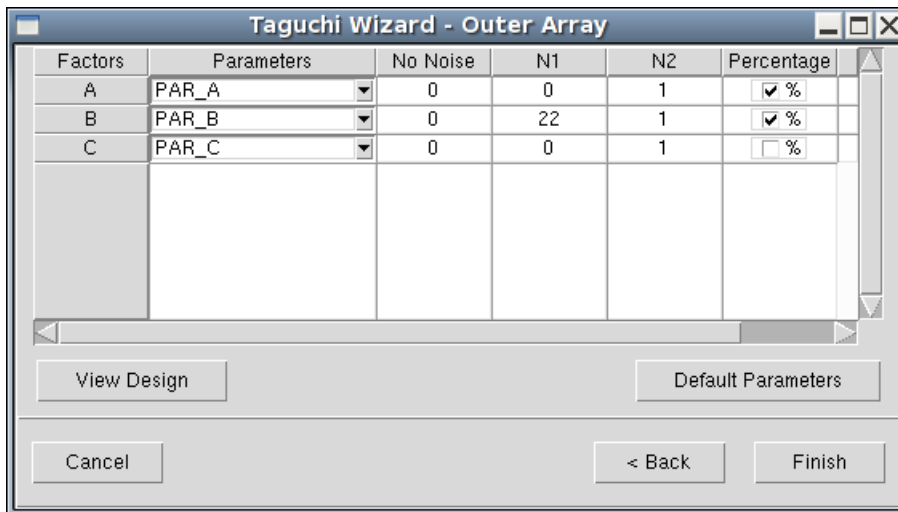
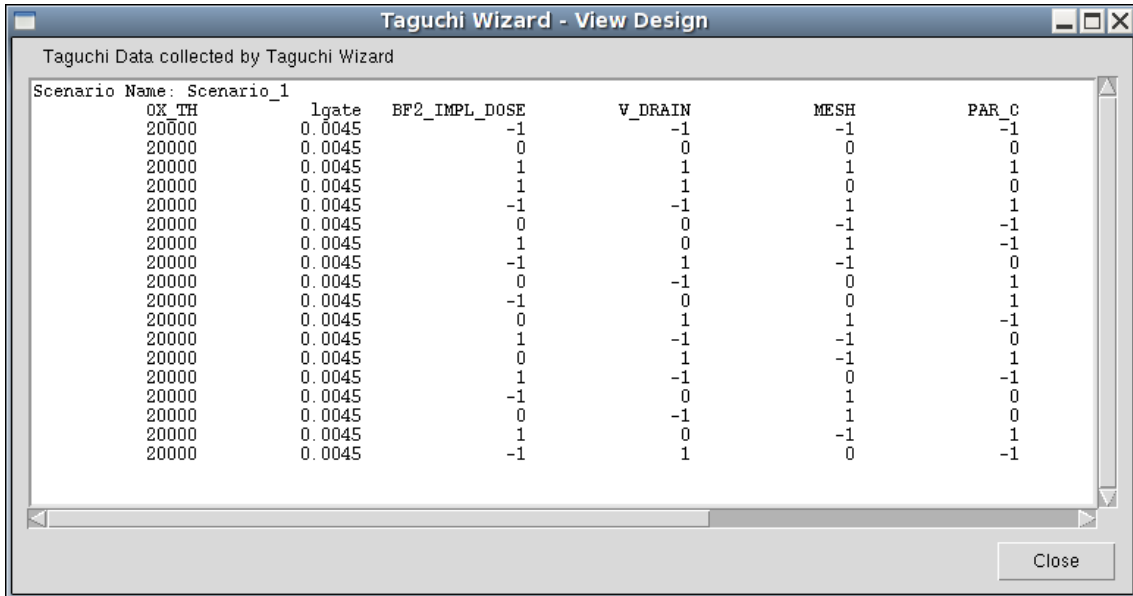

Figure 61 Multilevel With Noise - Step 3
Figure 62 Taguchi Wizard - View Design dialog box
Step 3 of Multilevel With Noise models (see Figure 61) contains entries to specify the values of the outer (noise) array. The No Noise, N1, and N2 columns allow you to insert three levels of error factor that will be used to create the error design to be applied.
You can click the **View Design** button (see Figure 61 on page 122) to display the View Design dialog box (see Figure 62), where you can see the design that will be generated.
After clicking the **Finish** button (see Figure 61), the selected design is created in Sentaurus Workbench (see Figure 63).